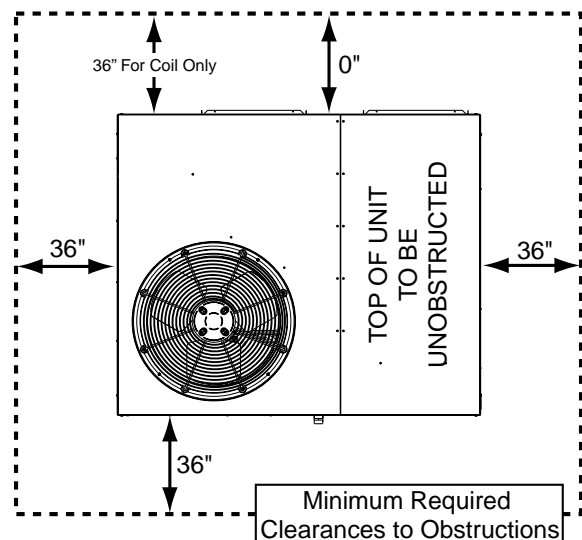

Figure 2. Clearance Requirements
- Sufficient clearance for unobstructed airflow through the outdoor coil must be maintained in order to achieve rated performance. See Figure 2 for minimum clearances to obstructions.
Q4SE units are certified as combination heating and cooling equipment for outdoor rooftop or ground level installations. Figure 2 (page 6) displays the minimum clearances to obstructions for both Downflow and Horizontal discharge.
- Clearances must be in accordance with those shown in Figure 2 (page 6).